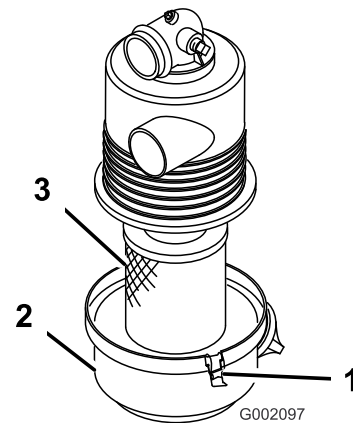

Figure 24
3. Release the latches securing the air cleaner cover to the air cleaner body. Separate the cover from the body. Clean the inside of the air cleaner cover (Figure 24).
4. Gently slide the filter out of the air cleaner body to reduce the amount of dust dislodged (Figure 24). Avoid knocking the filter against the air cleaner body.